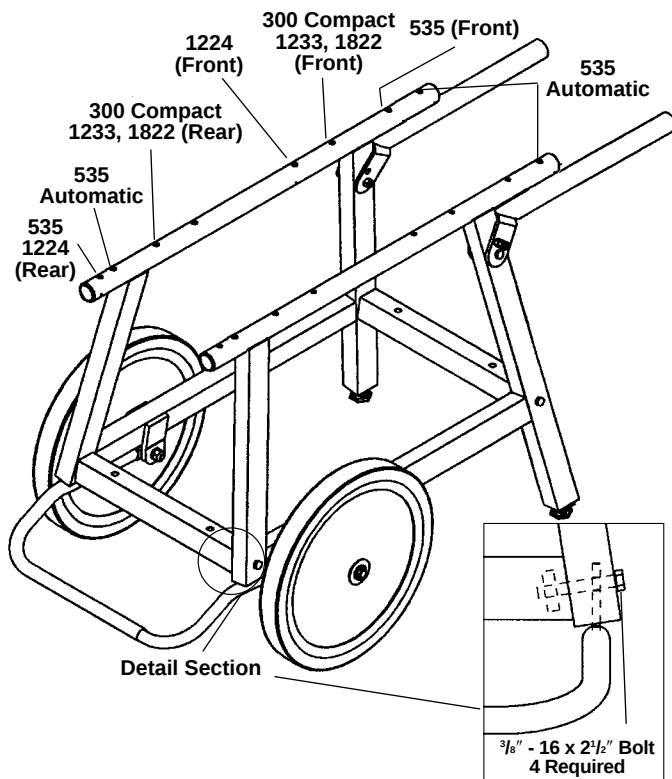

Figure 3 – Stand Assembly
2. Assemble stand with "inside" decals located towards the inside of the stand (*Figure 3*).
CAUTION For proper balance and operation, RIDGID machines must be mounted through the appropriate holes in the rails (*Figure 3*).